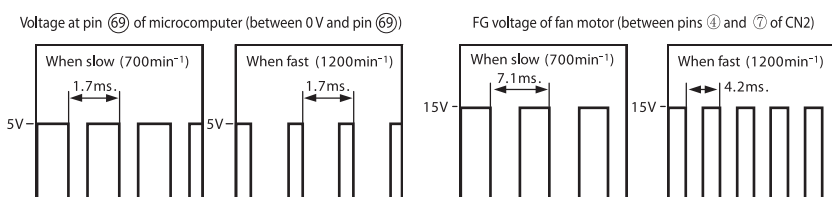

Fig. 11-2
- The VS receives a command voltage from the microcomputer (IC601). The VS terminal undergoes an analog voltage that matches the Lo level time ratio of the pulse signal from pin ⑥ of the microcomputer. (See Fig. 11-2.)